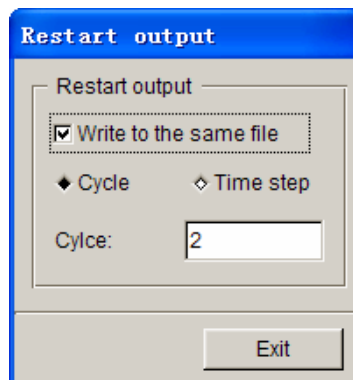

Figure 8.2.100 Restart Advanced Parameter Setup
**WRITE RESTART:** The user may use this option to output one or several restart files. The interface is shown in Figure 8.2.100.